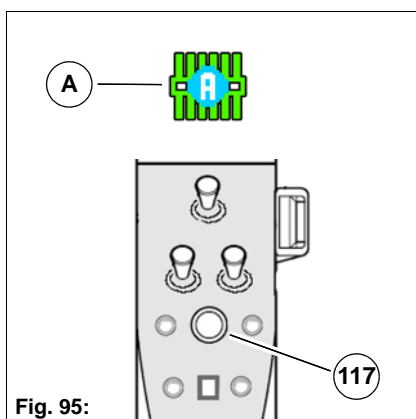

Fig. 95:
- The yellow frame around the symbol **Fig. 95-A** indicates the current activation status.